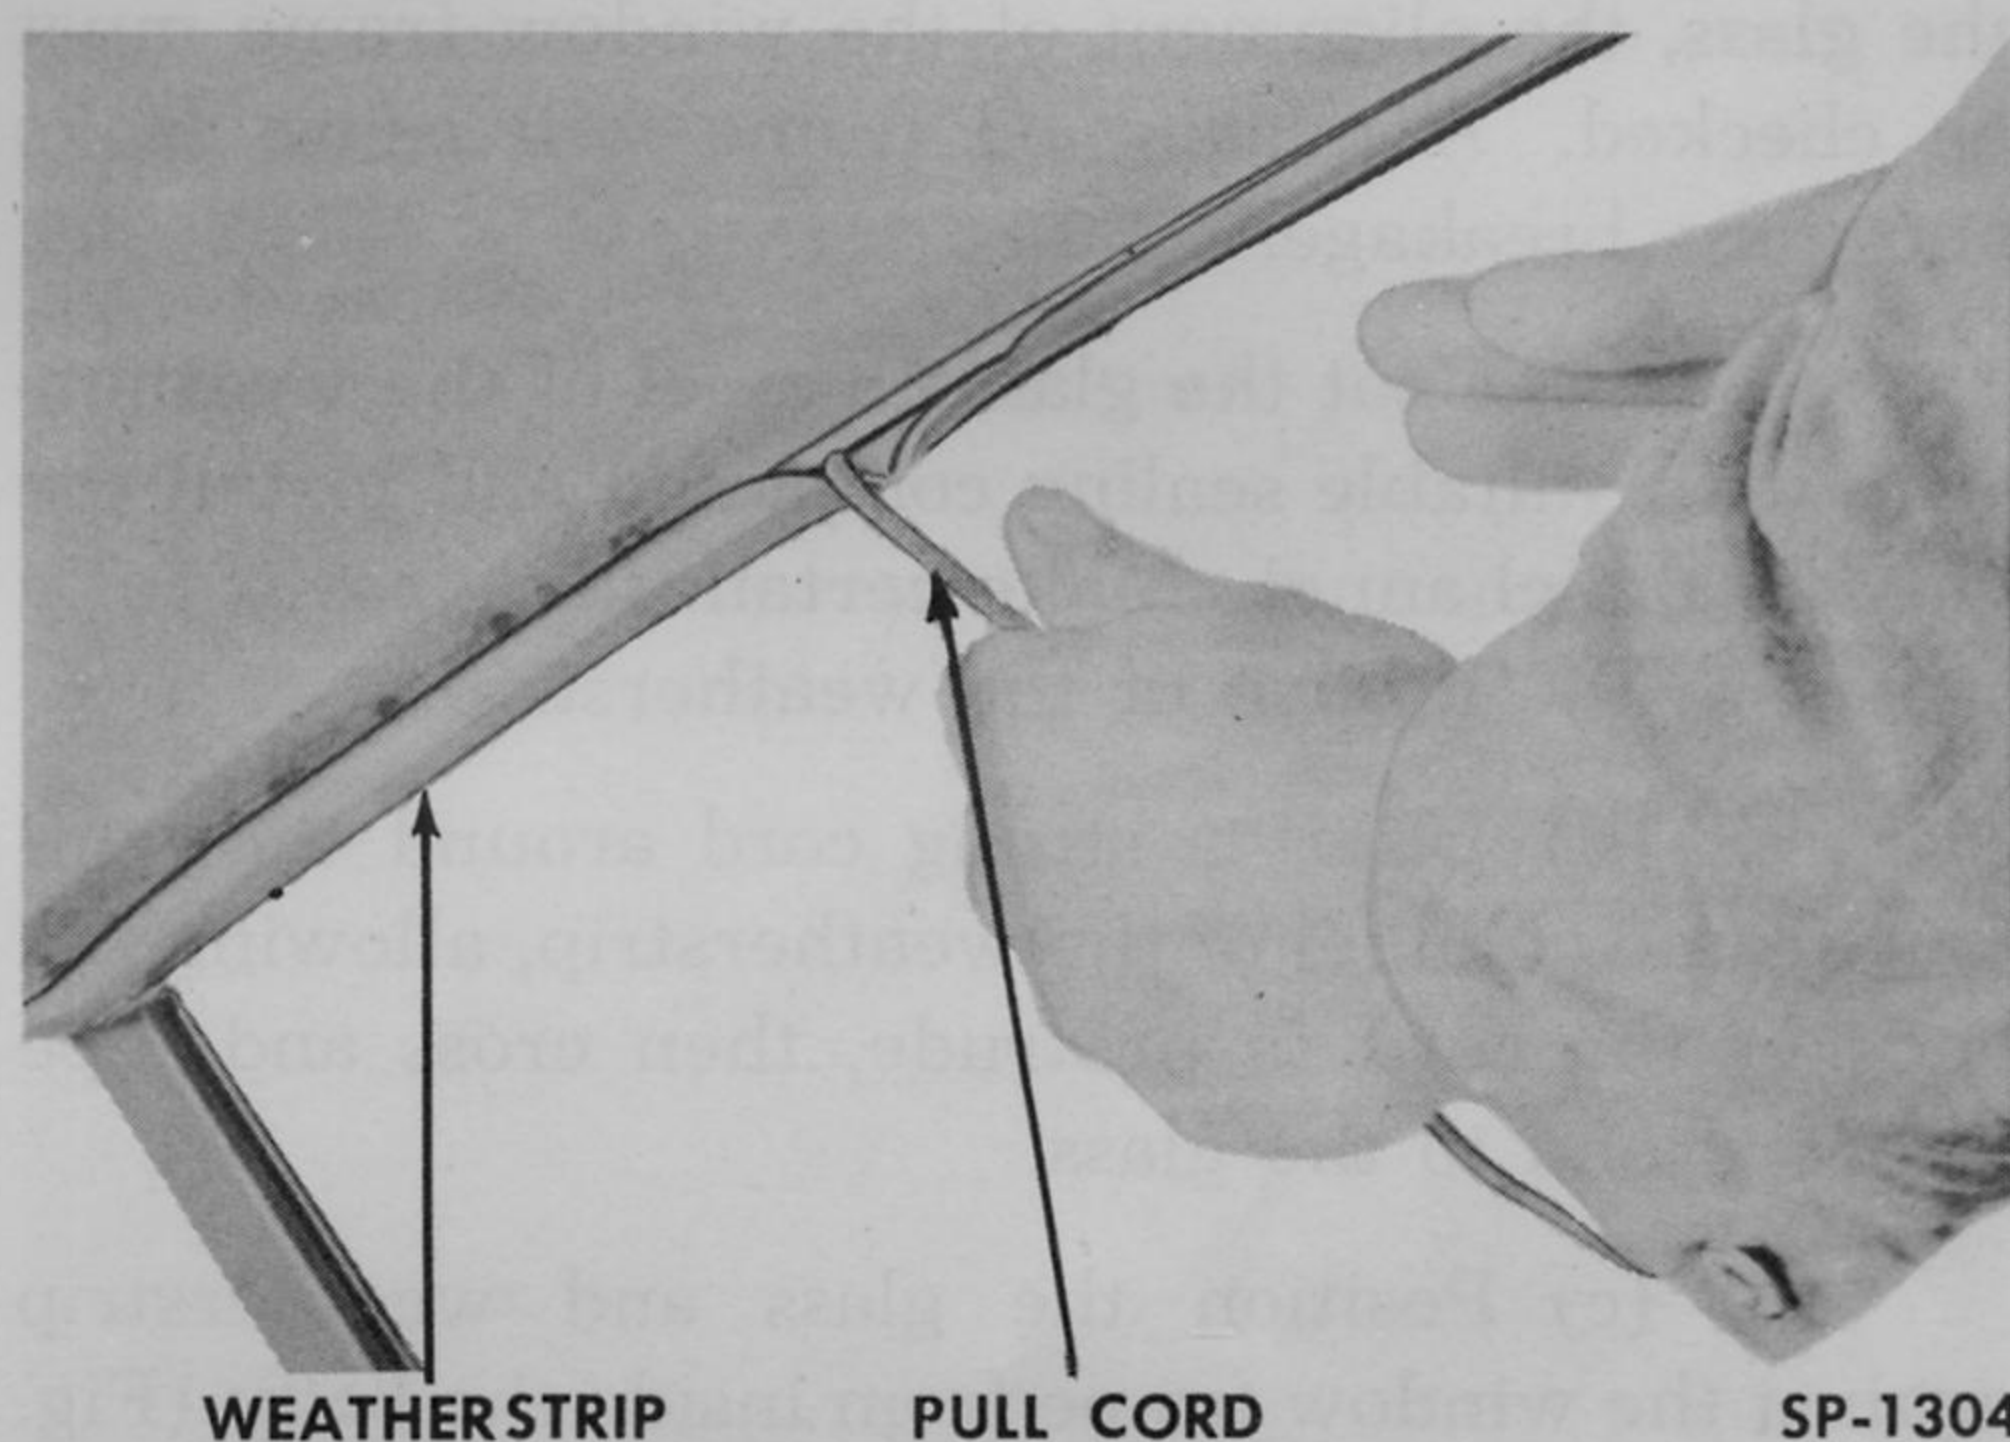

Fig. 368—Installing Windshield—Kaiser
**2. Windshield Glass Installation.** The procedure for installing the windshield is as follows (Fig. 368).